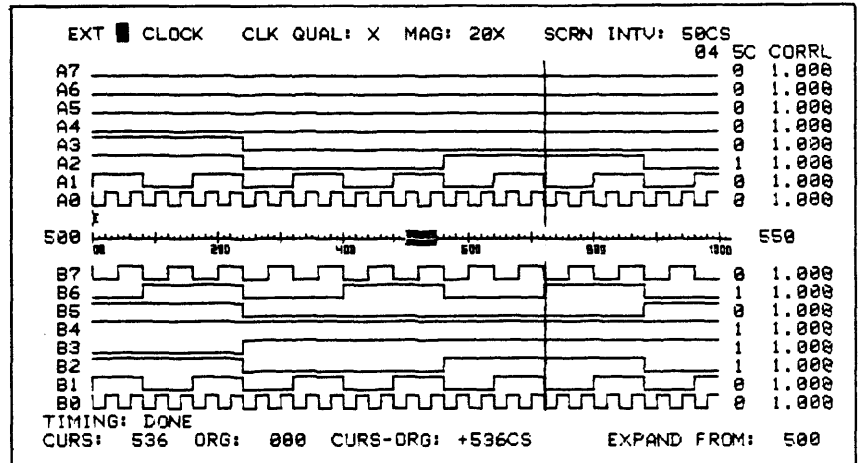

Figure 6-15. A correlation factor of 1.000 means that data in a main memory channel precisely matches the data in the corresponding auxiliary memory channel.
Press the **SAVE (S)** key and observe the flashing SAVED message. Press the **K (CORREL)** key to compare main and auxiliary data. Note that a correlation factor of 1.000 is displayed at the right of each channel. This factor means that all 1000 bits associated with each main memory channel compares with the 1000 bits in the corresponding auxiliary memory channel on a bit-for-bit basis. See Figure 6-15. Thus, if a correlation factor of .995 were displayed, it would indicate that 5 bits out of 1000 were different.